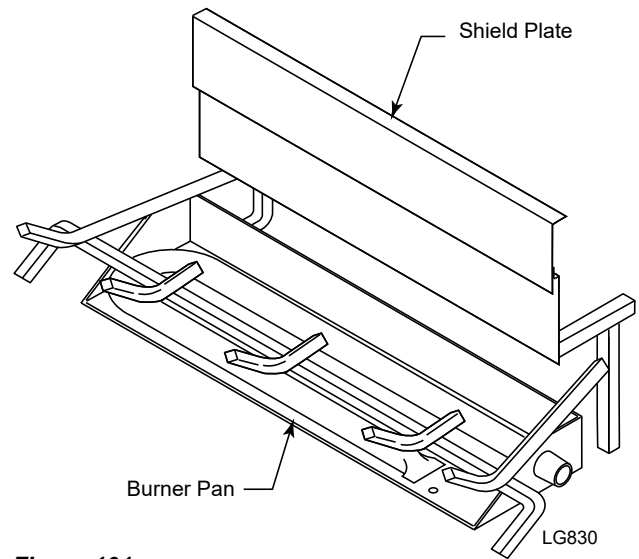

**Figure 100 -
5. Place Top Right Log #4 on Bottom Right Log #2 resting on grate. *Figure 100*
6. Place Top Left Log #5 behind Rear Log #1 on the notch on rear left of grate stand. *Figure 100*
7. Place Mid Front Log #6 on grate between center and middle left grate bars. Fit notch on back of log on the cross grate bar. *Figure 100*